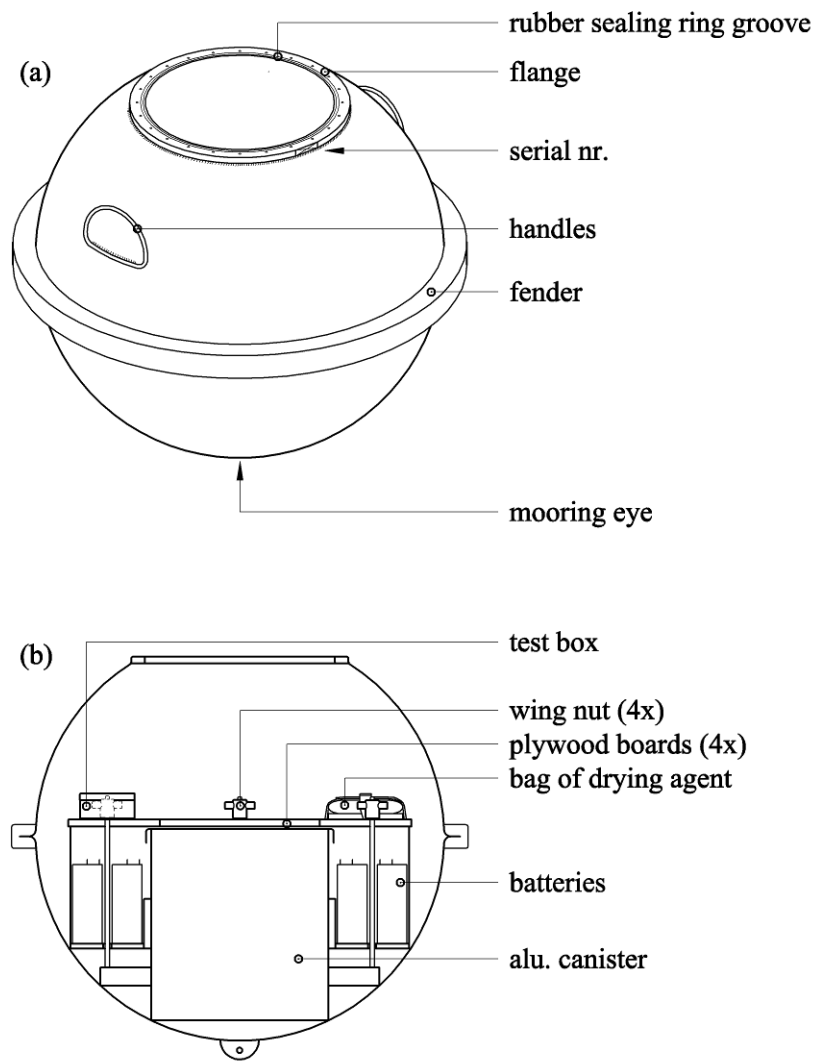

Figure 5.3.4. Rendering of the hull components, 0.9 m diameter. (a) shows the exterior and (b) the interior.
On the outside of the hull you will find, again from the bottom up: the mooring eye, fender fitted with anti-spin triangle or not, handles and flange with groove and rubber sealing ring and forward ship (FS) reference. The FS reference corresponds to zero orientation or compass north and is in fact a small planed face on the side of the flange with the hull serial number engraved. See Figure 5.3.4(a).
Although large parts overlap there are some marginal differences on the inside. In general the hull contains a ring of batteries surrounding an aluminium can, in case of a solar panel a package of Boostcaps (Power Storage Pack), an aluminium lid clamped with four fasteners, plywood boards fixed with wing nuts to keep everything in place, bags of drying agent, a test box for testing each battery section, and finally a main hatchcover cable with plug, the hatchcover connector, to connect to the electronics unit. DWR-MkIII buoys have 19-pin connectors, while DWR-G and WR-SG buoys have 14-pin connectors. Only the DWR-MkIII 0.9 m buoy offers the possibility of testing the motion sensors individually. Drying agent bags are fixed with Velcro straps; see Figure 5.3.4(b). In case of a DWR-G 0.4 m buoy, the hull merely contains 4 batteries. Drying agent bags and a step-up converter with power plug and battery testpoint are fixed on the plywood.